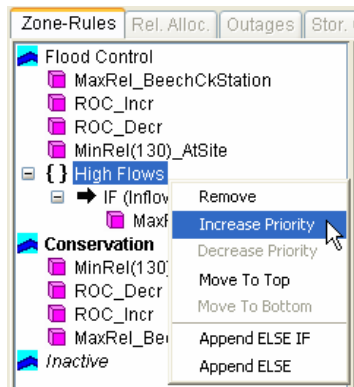

Figure 11.72 IF_Block Shortcut Menu
3. Check the position of your **IF_Block** with respect to the other rules in the zone. To raise or lower the priority within the rule list in a particular zone, use the **Increase/Decrease Priority** or **Move to Top/Bottom** options in the shortcut menu (Figure 11.72).